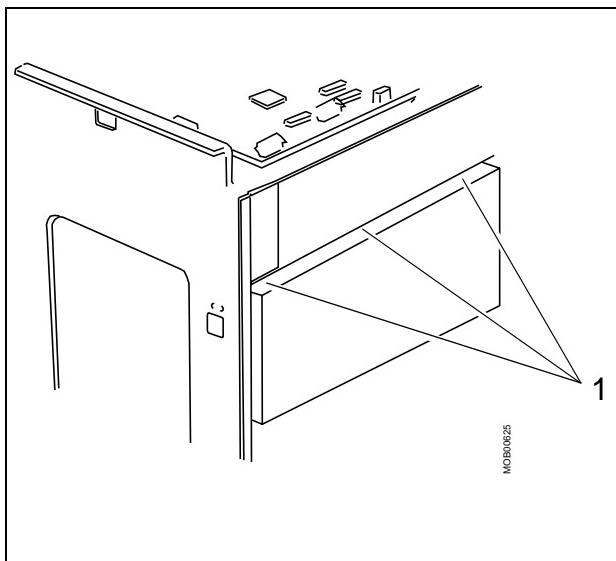

Fig. 4
- Remove three cable ties (pos. 1 / Fig. 4).